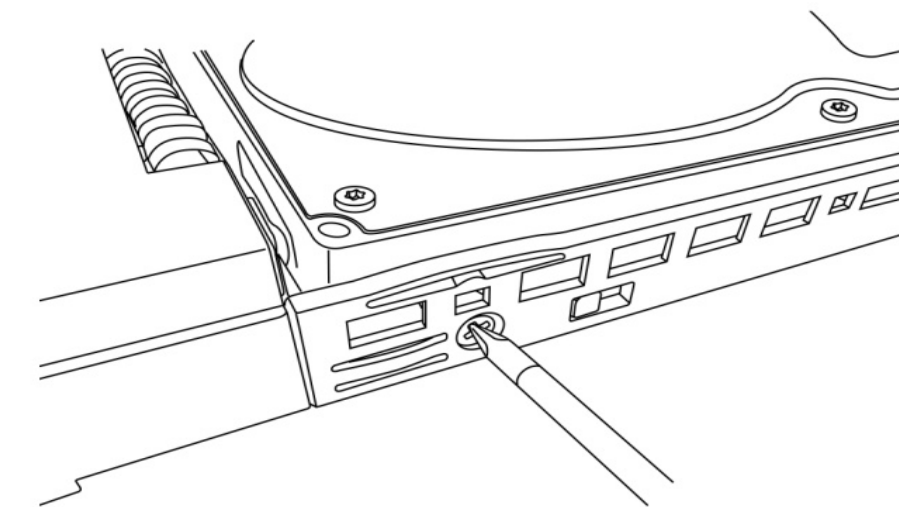

Figure 2
2. Fasten the drive to the carrier using only the counter-sink screws provided (Figure 2). Use four screws per drive and be careful not to over-tighten them.